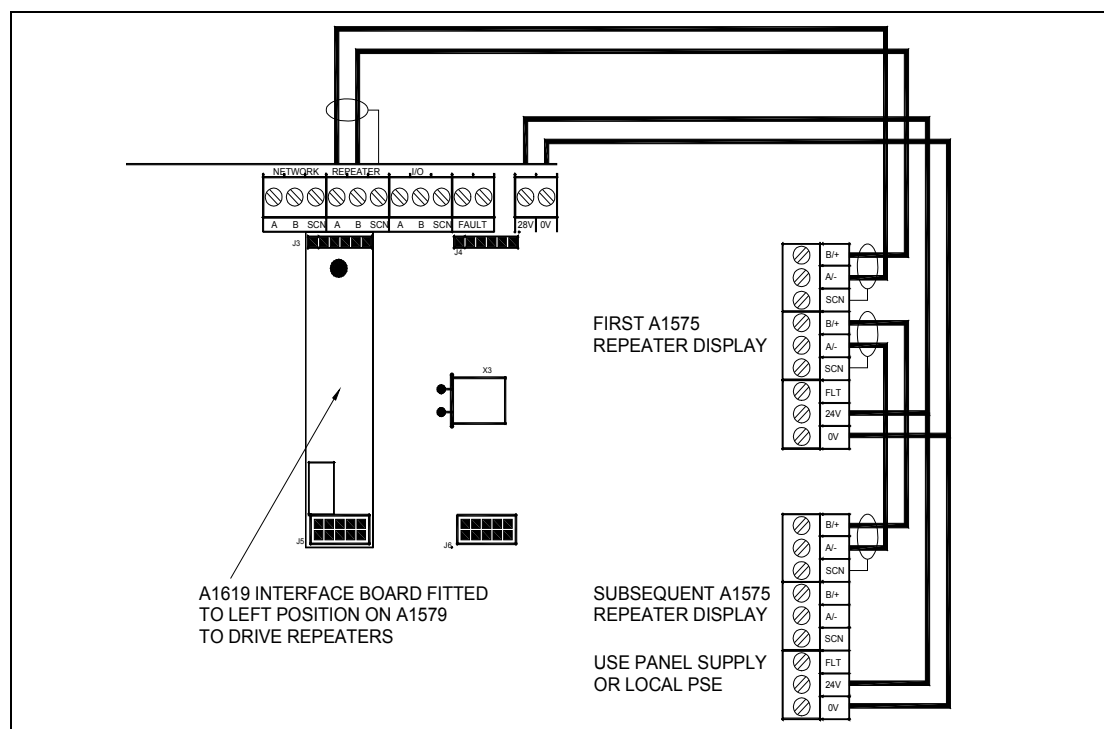

Figure 3 – Panel Repeater connection diagram
3. Connect the panel repeater RS485 wiring as shown in Figure 3.
4. If the panel repeater is to be powered from the panel connect the 28V auxiliary output from the motherboard to the A1575 repeater display. This is also shown in Figure 3.